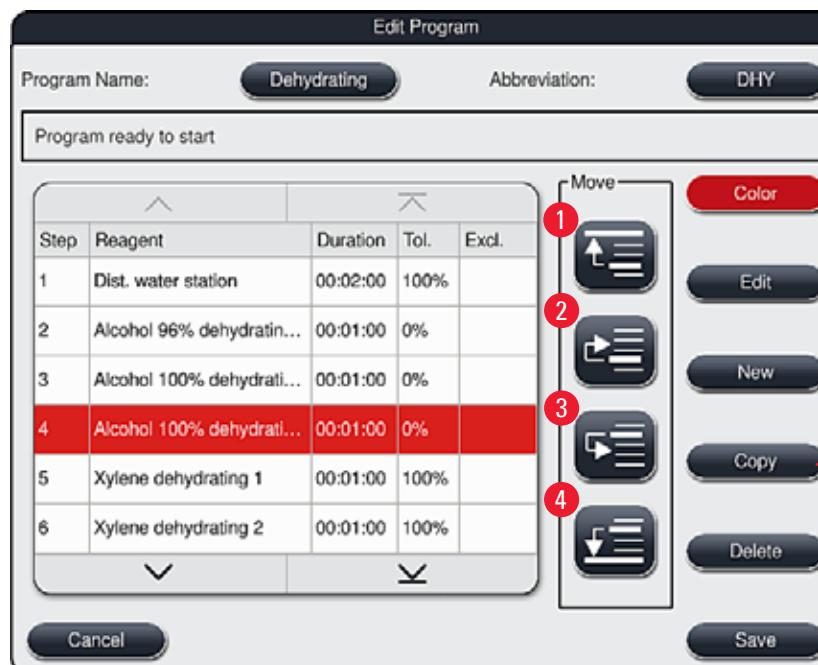

Fig. 49
- It opens the "Edit program step" window (→ Fig. 49).
- The "Save" button (→ Fig. 49) is used to apply the changes. Press the "ESC" button to discard the entry.